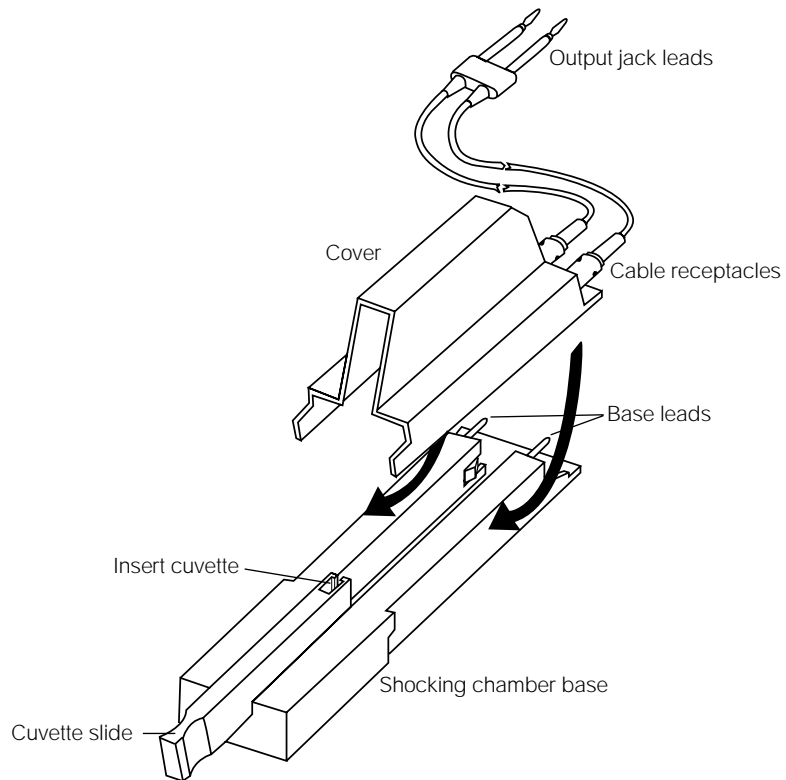

Fig. 2.2. Assembly of Gene Pulser II unit shocking chamber.
3. Assemble the shocking chamber by placing the clear plastic cover (end without cables) over the mid point of the base. Position the plastic cover so that base leads insert securely into the cable receptacles on the plastic cover. Insert the cuvette slide into base (Figure 2.2).